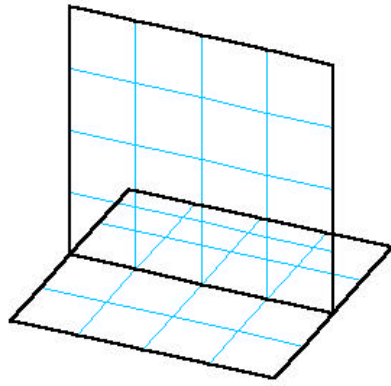

Figure 6.6.3 Single Surface
2. Any feature line where the angle is larger or equal to the angle criteria will be highlighted. eta/DYNAFORM prompts to generate the plotel element, see Figure 6.6.3.